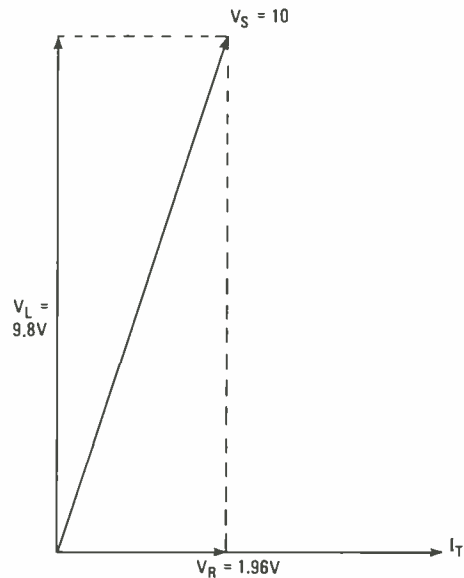

Fig. 15—If the vector diagram you drew to help you solve problem 3 looks like this chances are you got it right.
3. (See Fig. 15) $Z = \sqrt{R^2 + X_L^2}$